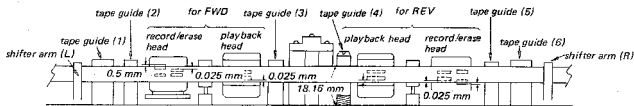

Fig. 3-25. Head adjustment
- Make sure that the positioning relation between the head core and the tape is correct. See Fig. 3-25.